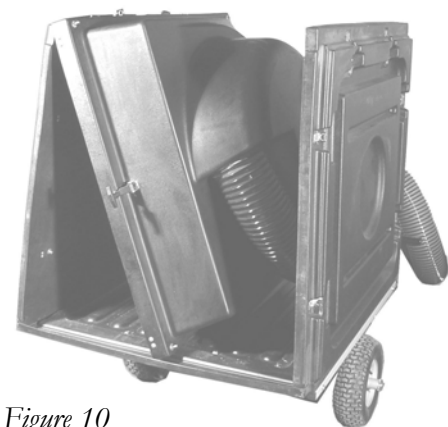

Figure 10
2. Tip the Centrifugal Separator at a 45° angle and slide it between the secured sides on the trailer with the hose protruding along the right side of the trailer pointing toward the front (*Figure 10*).
3. Place the left edge of the Centrifugal Separator on top of the left side panel. (*Figure 10*).